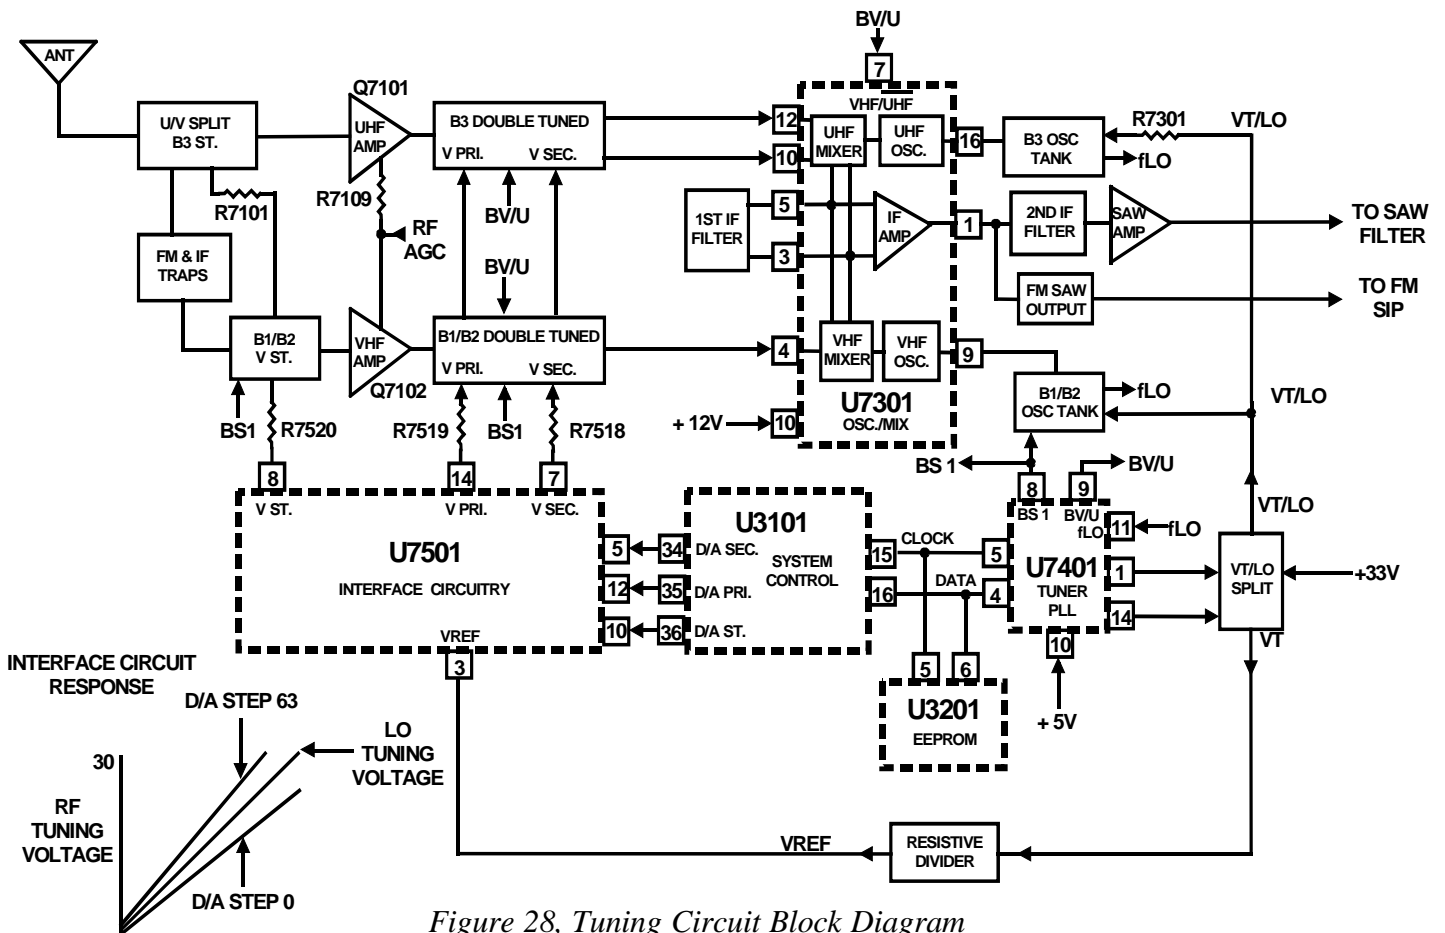

Figure 28, Tuning Circuit Block Diagram
U7501 forms the interface circuit that low pass filters the PWM signal from U3101 and sums it with the VREF tuning voltage. The interface circuit response is shown on figure 28. The higher the tuning voltage, the more offset voltage range from the D/A's. This is necessary because varactor diodes require more voltage across them to get the same change in capacitance at higher tuning voltages than at lower tuning voltages.
7. Check band switch logic (BS1) on Q7402 (see voltage chart & figure 28).
8. Check B V/U logic on Q7403 and Q7404 (see voltage chart % figure 28).